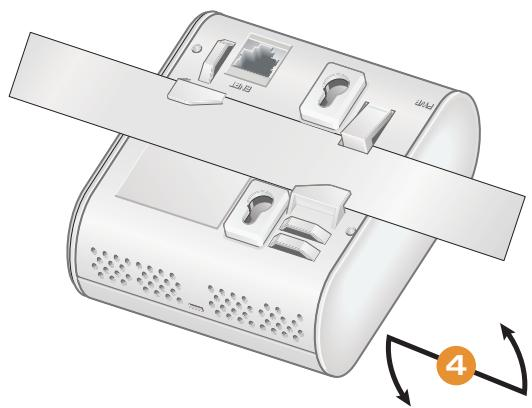

Figure 3 Securing the AP 65 to the ceiling tile rail
5. Pushing gently against the ceiling rail, twist the AP 65 clockwise until the AP and the rail click into place (see Figure 3).